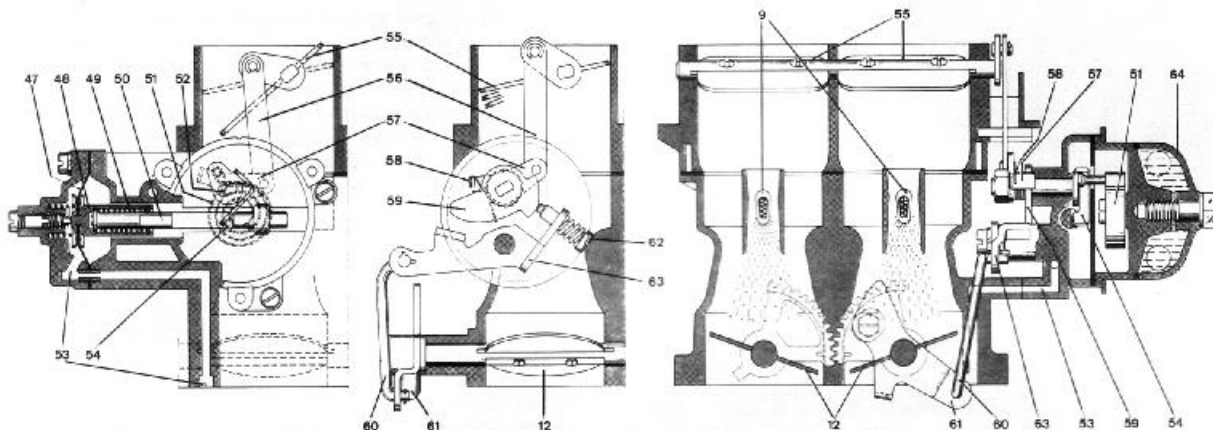

Fig. 9.3 Automatic choke operation (DGAS type shown) (Sec 3)
Refer to Fig. 9.3 and note that when the engine is cold and the throttle pedal has been depressed once, the bi-metallic spring (51) rotates the spindle (52) and closes the choke valves (55). At the same time the fast idle cam (59) prevents the throttle valves (12) from completely closing.